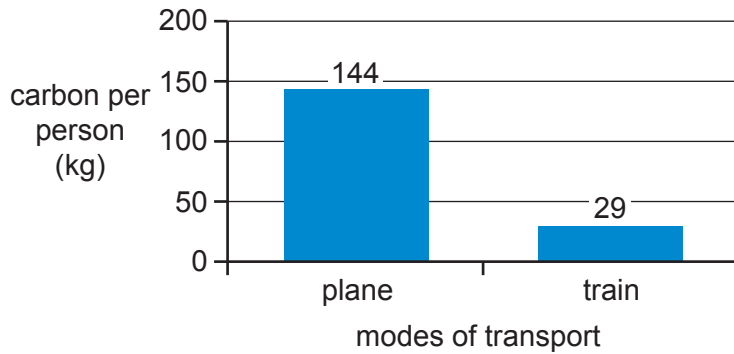

Fig. 2.1
- 2 **Fig. 2.1** shows the amount of carbon produced **per person** when travelling **one way** between London and Edinburgh. This carbon footprint is based on the plane and train carrying the same number of passengers (300) and both modes of transport being full.